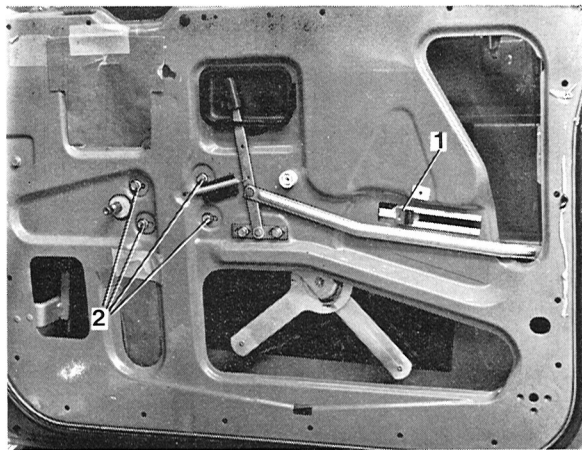

Fig. 8-21. Front door, interior
4. Remove the clip (1, Fig. 8-21) at one of the regulator arm's retaining points in the door.
5. Remove the door window crank mechanism retaining screws (2, Fig. 8-21).
1. Install the crank mechanism with the screws (2, Fig. 8-21). Do not tighten the screws.